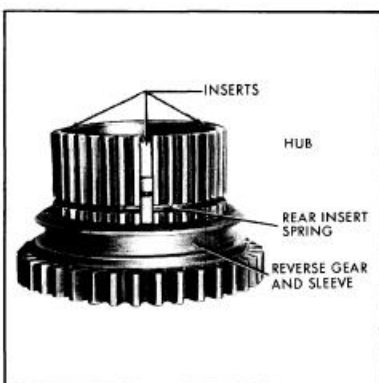

Figure 4-16—Positioning Inserts
3. Position the three inserts in the hub with the small end over the spring and the shoulder on inside of hub. See Figure 4-16.